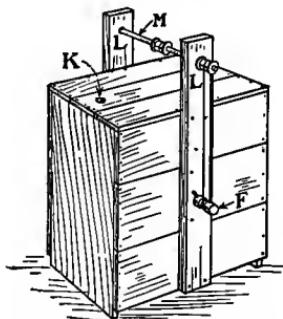

FIG. 297.—The Completed Water-Motor.
**The Motor Case.** You can probably get a small grocery box for the *case* of your water-motor; if not it will be a simple matter to cut down a box. Figure 297 shows the
The Shaft *F* (Figs. 297, 299, and 300) should be enough longer than the width of the motor case to allow for cutting a pulley *G* on one end, and driving a pin *H* through the other end. To prepare the pulley, first make two cuts entirely around the shaft with a fine saw, then remove the wood between the cuts with a chisel. This cutting must be done very exactly, of course, or your pulley will not center on the shaft. Drill the holes *H* for pins (Fig. 299). Block *I* (Fig. 300) is for a short set-screw to keep the water-wheel from turning on the shaft. Make one of these for each end of the wheel. Bore hole *A* through the center of the block, drive screw *J* into one edge, and then nail the blocks to the ends of the wheel.
**The Upper Shafting *M*** and the uprights *L* (Figs. 297 and